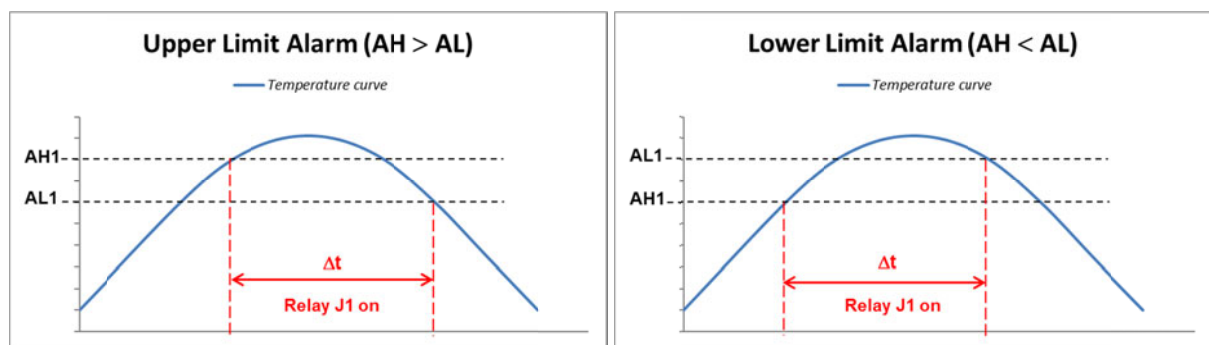

Figure 1: Alarm configuration for upper and lower limits
If the relay J1 is configured as an alarm output (**out₁** = 0, 2 or 3), the AH1 value defines the alarm switching ON temperature, why the AL1 value defines the switching OFF point. For an upper limit alarm, AH1 must be greater than AL1 ($AH1 > AL1$) and for a lower limit alarm AH1 must be less than AL1 ($AH1 < AL1$) like shown in figure 1 below.
- 2) For an upper limit alarm (see figure 1), $AH1$ must be greater than $AL1$ ($AH1 > AL1$). The $AH1$ value should also be greater than the setpoint SV ($AH1 > Su$) to establish an overheat protection. For good starting point values and an example of an overheat protection setup, please follow on with the next chapter “Quick Setup”.
- 3) For a lower limit alarm $AH1$ must be less than $AL1$ ($AH1 < AL1$) like shown in figure 1 on the right.